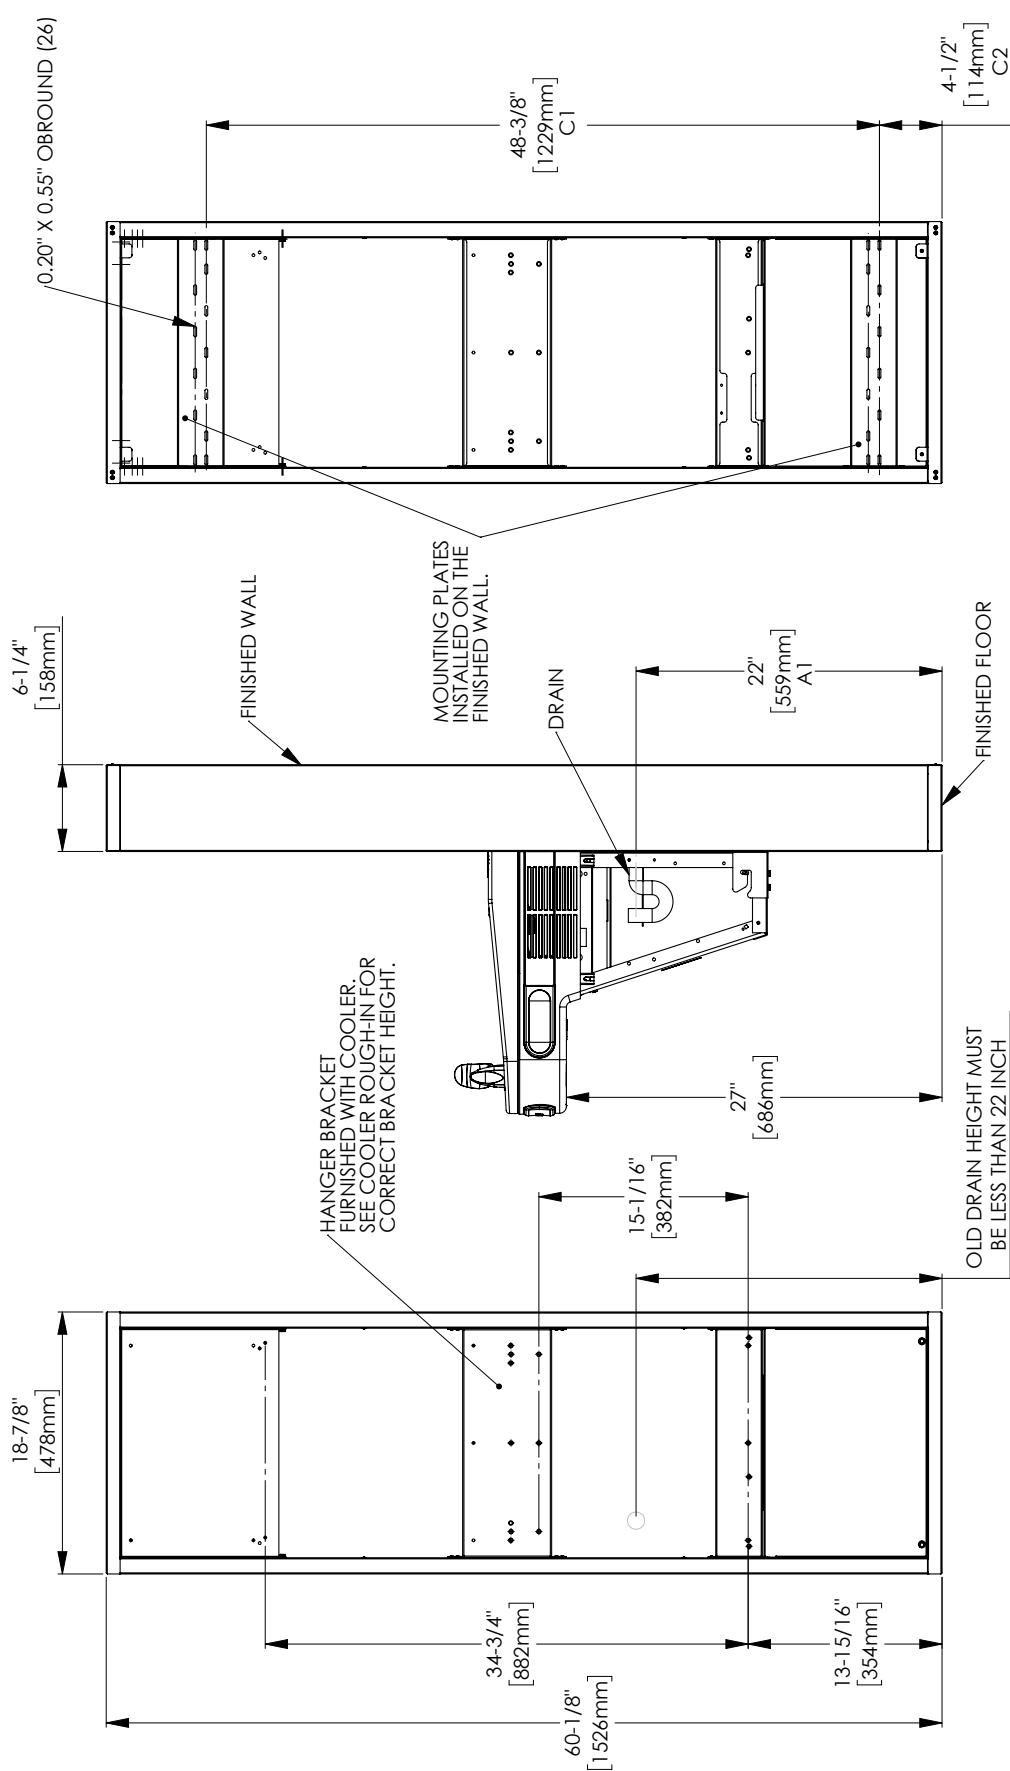

Fig. 1
1. Remove hanger bracket fastened (Item #4 – 1 Qty.) to back of cooler by removing one (1) screw.
2. Mount the hanger bracket with (Item #1 – 1Qty) using (Item #5 – 6 Qty.) in corresponding holes as shown. as shown in Figure 1 (Pg. 6).
1. Hang the Cooler assembly on to the (Item #4). Be certain hanger bracket is engaged properly in the slots on the cooler back as shown in Figure 1 (Pg. 6).